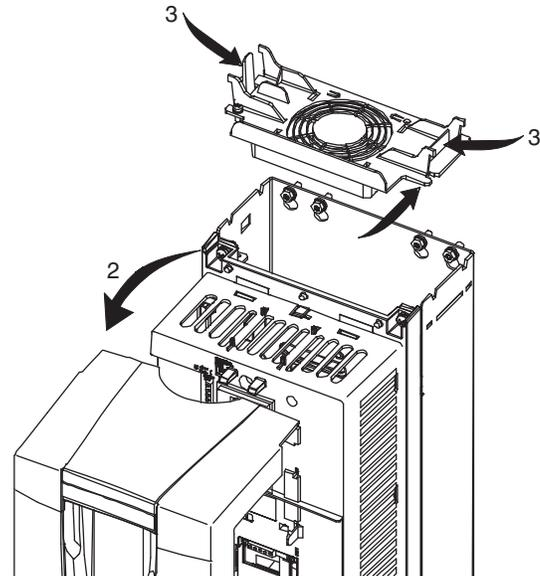

Fig. 34 — Remove Top Cover on ACH550 VFD
3. Press together the retaining clips on the top cover and lift (see Fig. 34).